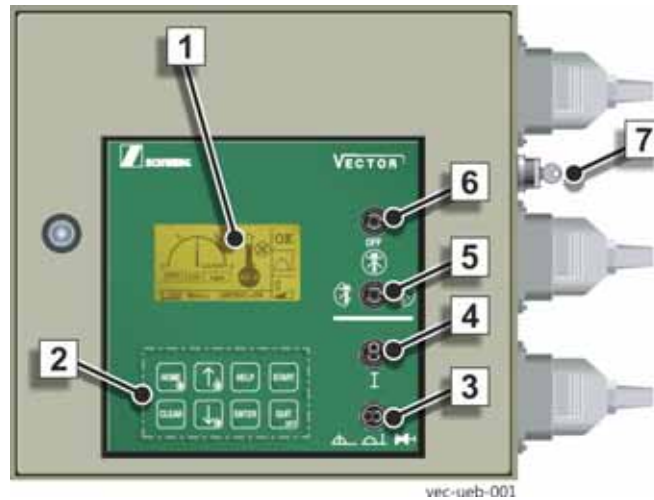

Fig. 199 VECTOR display
The messages are shown on the display (1) (**Fig. 199**).
Caption (Fig. 199)